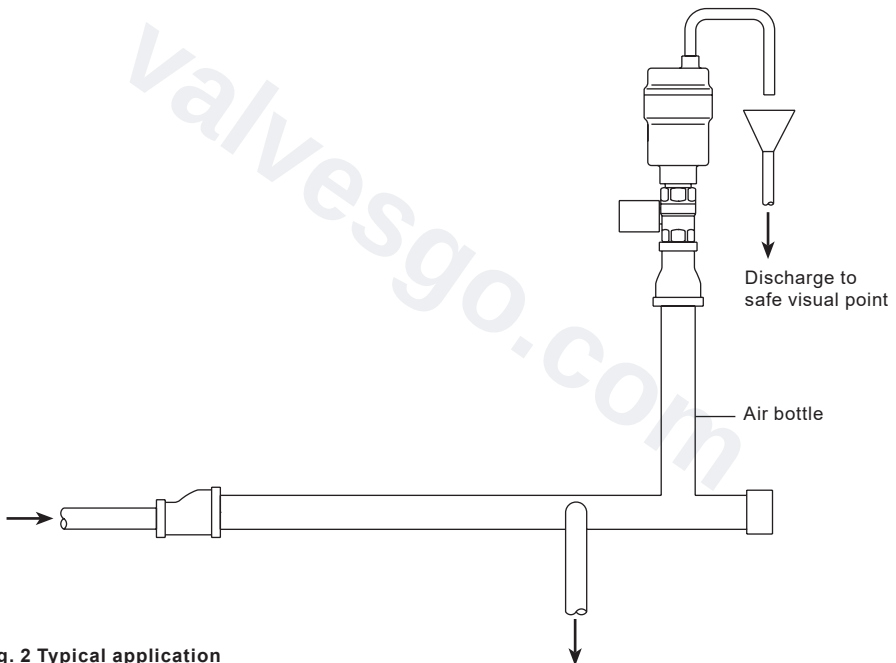

Fig. 2 Typical application
- 3.4** The automatic air eliminator/air vent should be installed vertically with the inlet at the bottom. We recommend piping the discharge from the air eliminator/air vent to a suitable safe point. To enable this to be done the outlet is provided with a 1/4" BSP or NPT male thread. See Figure 2 for a typical application.